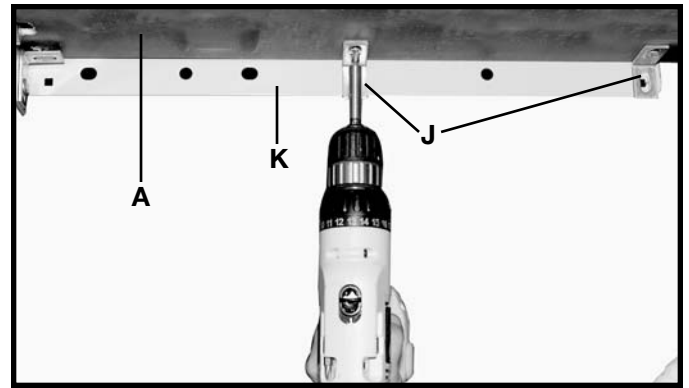

Fig. 16
12. Assemble the table (A) to the two brackets (J) on the rear table support (K) Fig. 16, using two #8x7/8" screws.